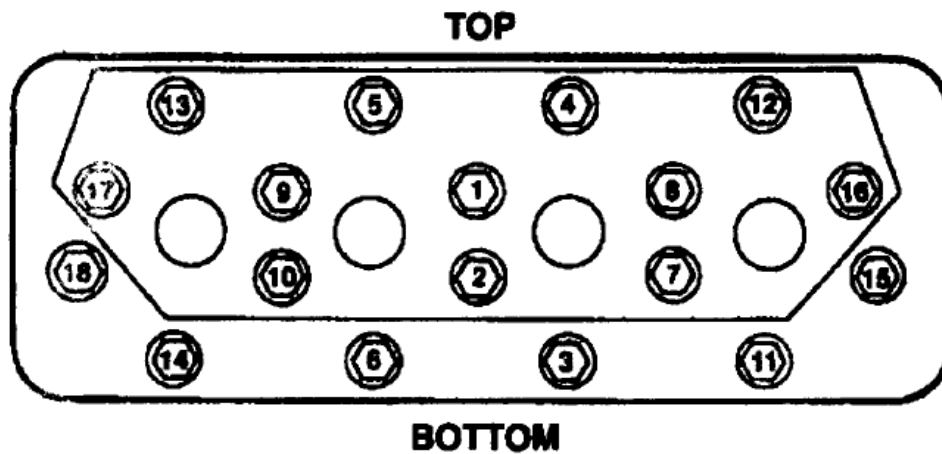

Figure 1 - First Torque Sequence Guide
1. Reference the supplied diagram for head bolt removal and tightening. Find the bolt corresponding to #1 in *Figure 1*, and remove it.
4. Perform steps 1-3 for bolt #2 in *Figure 1*. Continue in this order until all 18 head studs have been torqued to **90 ft-lb**.
3. Apply a conservative amount of Moly Assembly Lube to the exposed stud threads, as well as both sides of the washer, and torque all studs to **60 ft-lb** using the proper sequence shown in *Figure 1*. Loosen them all, re-torque all to **60 ft-lb** in the same sequence. Again loosen them all, torque all to **90 ft-lb** in the same sequence and stop.